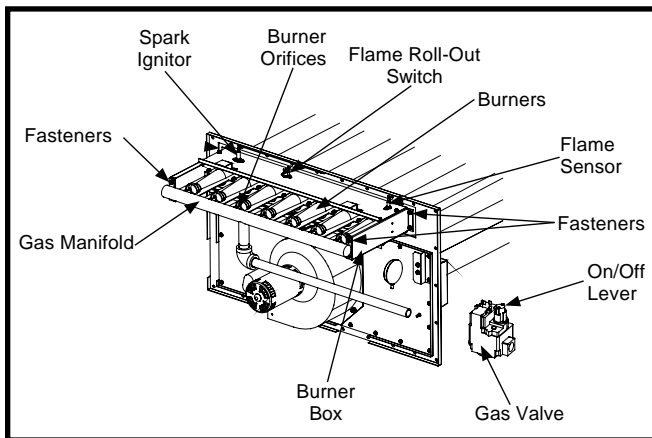

Figure 1. Typical Burner Box
5. Remove the White wire from the LOW (M) terminal, the Brown wire from the HI terminal, and the Black wire from the Common (C) terminal of the gas valve.
7. Remove the four (4) fasteners that secure the gas manifold to the burner box, as shown in Figure 1. Carefully remove the gas manifold assembly from the burner box. **NOTE:** The gas manifold consists of the gas manifold and the orifices.
8. Carefully remove the burner orifices from the gas manifold, as shown in Figure 1.
9. Remove the four fasteners that secure the burner box to the heat exchanger mounting panel, as shown in Figure 1.